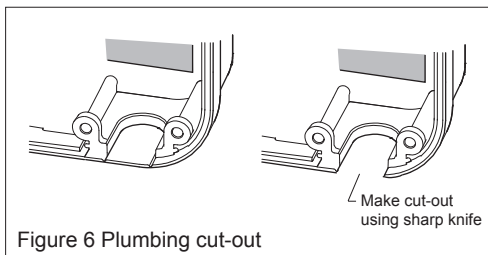

Figure 6 Plumbing cut-out
- 5.8 Plumbing entry can be from the rear (preferred) or from the bottom. The backplate has a cut-out position to suit 15mm pipe. When opting for bottom entry make cut-out before fitting backplate to the wall - see Figure 6.